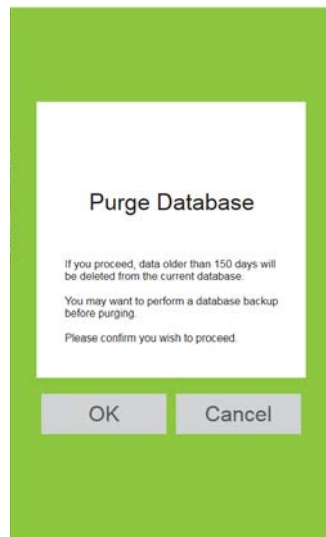

Figure 5-28: Purge Confirmation Screen
- Once the appropriate timeframe has been selected, press the green “Purge” button. A screen as shown in Figure 5-28 will appear asking the user to confirm that a Purge should take place. The screen also reminds the user that before proceeding, backup of data is recommended.